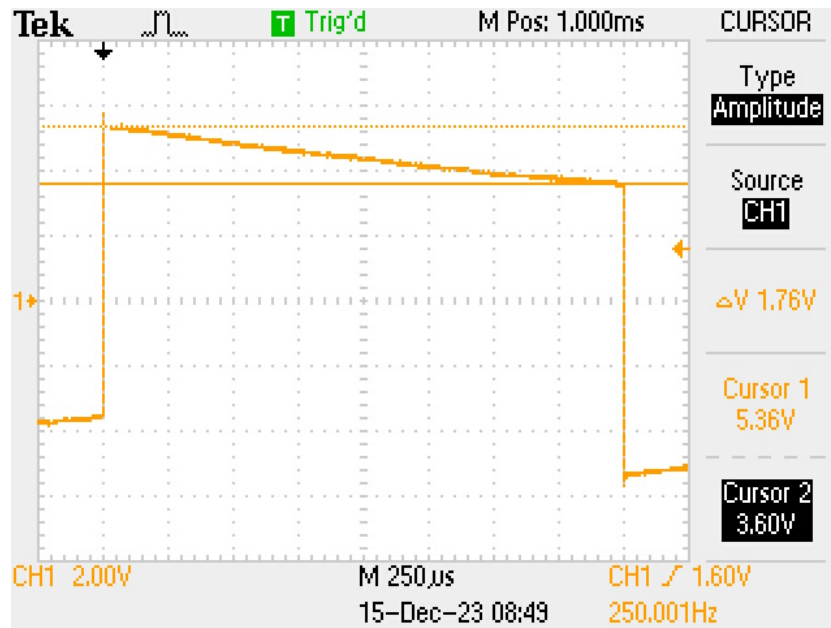

Figure 2.11: Measuring Vmax & Vmin on a Tilt waveform
2. Expand the waveform across the display of the oscilloscope using the horizontal control, see Fig 2.11.
3. Use the cursors to measure Vmax and Vmin of the pulse, see Fig 2.11. Cursor 1 (Vmax) is 5.56V and Cursor 2 (Vmin) is 3.6V.